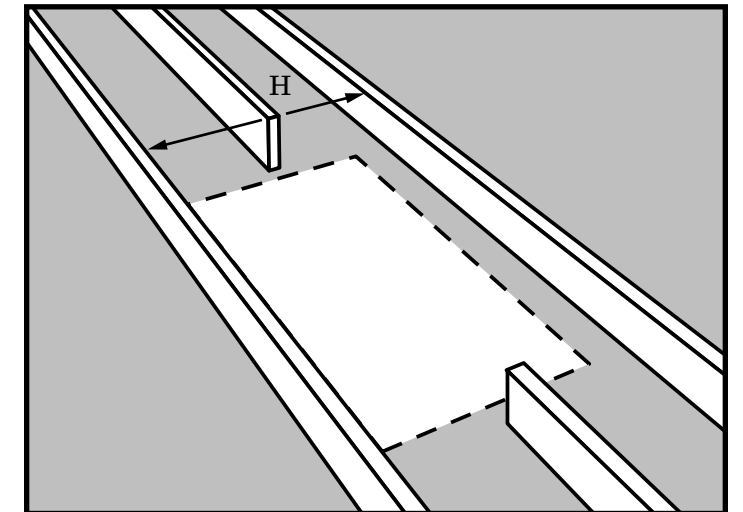

Figure 17
STEP 1. Measure the header length “H” between the uncut joists as shown in Figure 17.